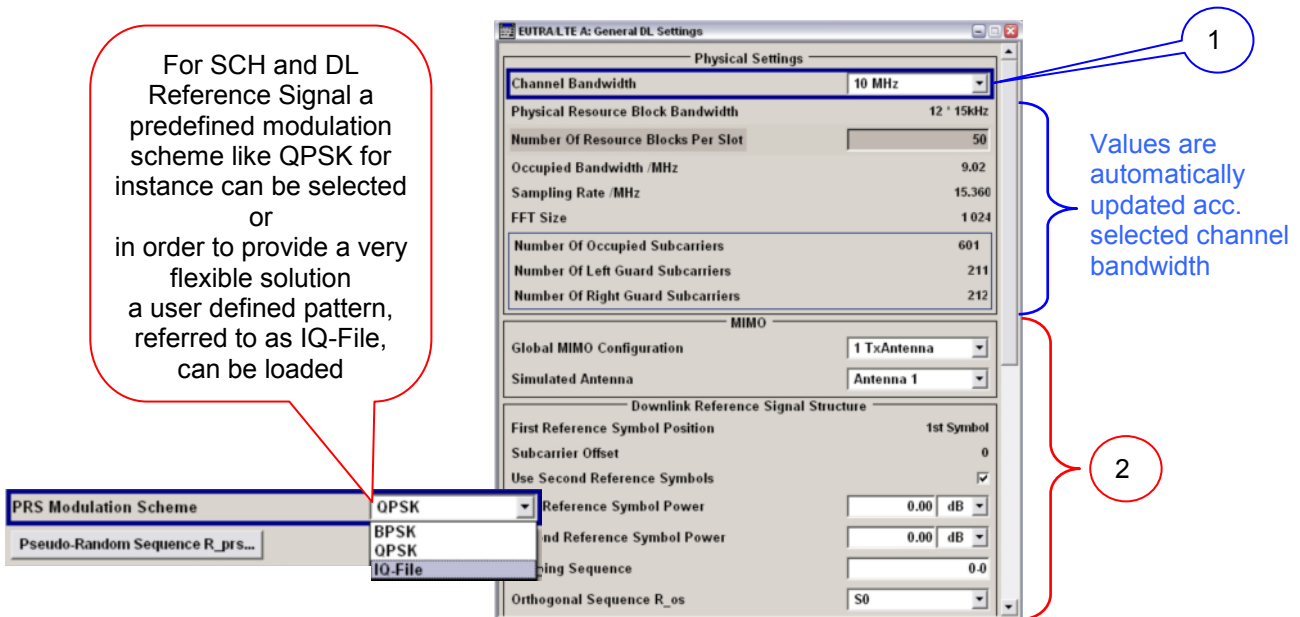

Figure 4-3 SMU EUTRA/LTE DL settings – General DL settings
- ①. Enable EUTRA/LTE BB → it's recommended to enable baseband after configuring signal, otherwise signal calculations are triggered with any single modification
- ②. Set EUTRA/LTE menu to default settings
- ③. Save or recall EUTRA/LTE settings
- ④. Save datastream to ARB compatible \*.wv file
- ⑤. Set signal link direction
- ⑥. Sub-menu for general DL (resp. UL) signals (Figure 4-3)